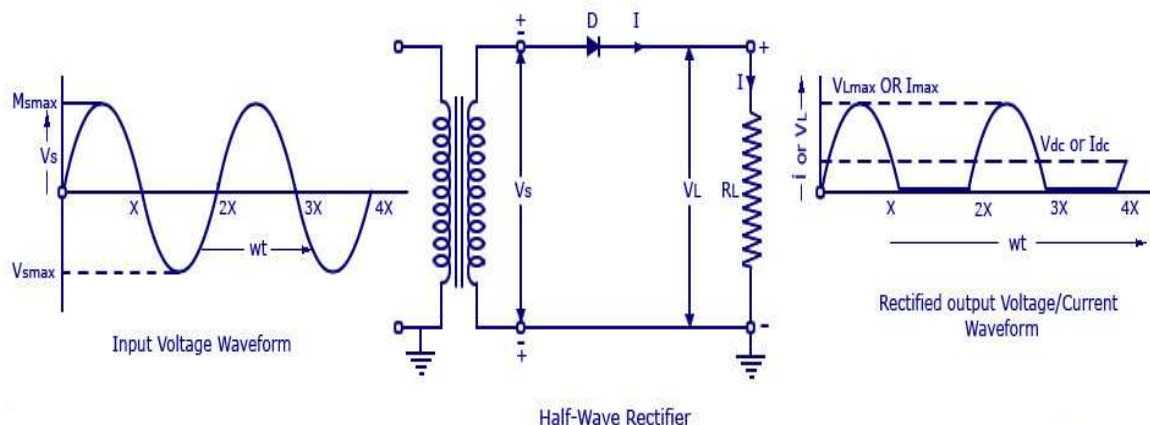

Fig. 11 Half Wave Rectifier
- A rectifier is an electrical component that converts alternating current (AC) to direct current (DC). A rectifier is analogous to a one-way valve that allows an electrical current to flow in only one direction.
A half-wave rectifier is an electronic circuit that converts alternating current (AC) to pulsating direct current (DC) by allowing only one half of the input AC waveform to pass. The circuit diagram for the half wave rectifier is shown in Fig. 11.